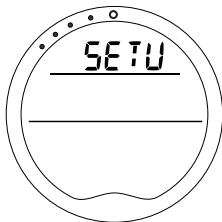

Fig. 60 - Set U
- > Depressing the A and S buttons simultaneously for 6 seconds while in the SURFACE MODE, will access SET U identified by the graphic SETU (Fig. 60).